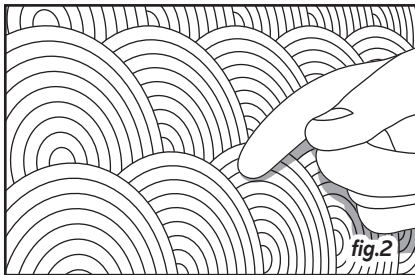

fig.2
- To align properly, place the panel against the wall and press it against the floor (or skirting). Then set the panel horizontally with the aid of a spirit level and mark a line on the panel parallel with the floor (or skirting). Cut the panel along the line. Repeat this procedure for the vertical alignment (fig.2 and 3).
- Check the glue's open time by placing a fingertip against the glued surface. If filaments appear when the finger is withdrawn, the open time is satisfactory (fig.2).
- Lay the joint from top to bottom, maintaining pressure on the start point with a finger (fig.2).